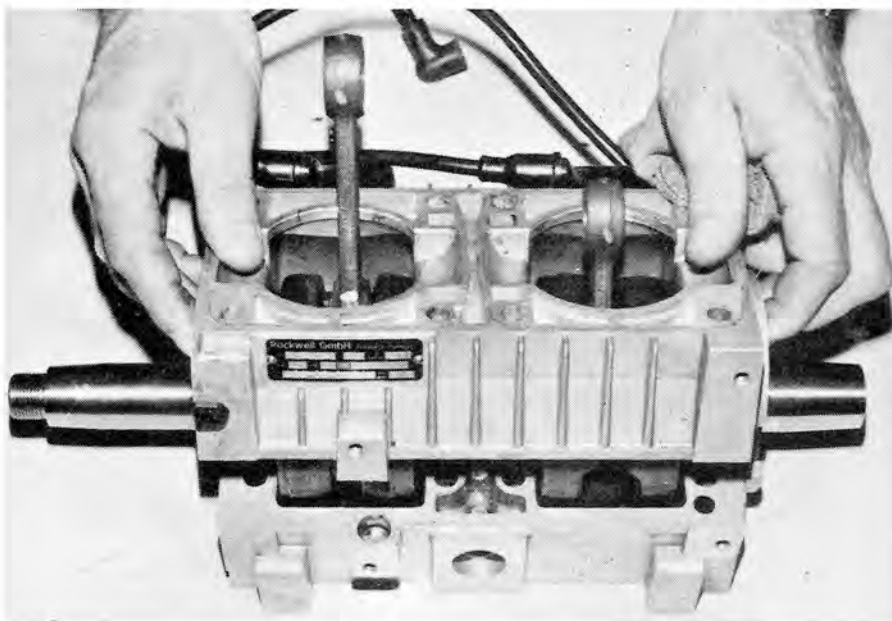

FIG. 1-24
- K. To separate the crankcase halves, hold upper portion of crankcase assembly in one hand, lifting slightly and tap the end of the crankcase with a soft hammer. The crankcase will separate and the crankcase may be removed. See Fig. 1-24.